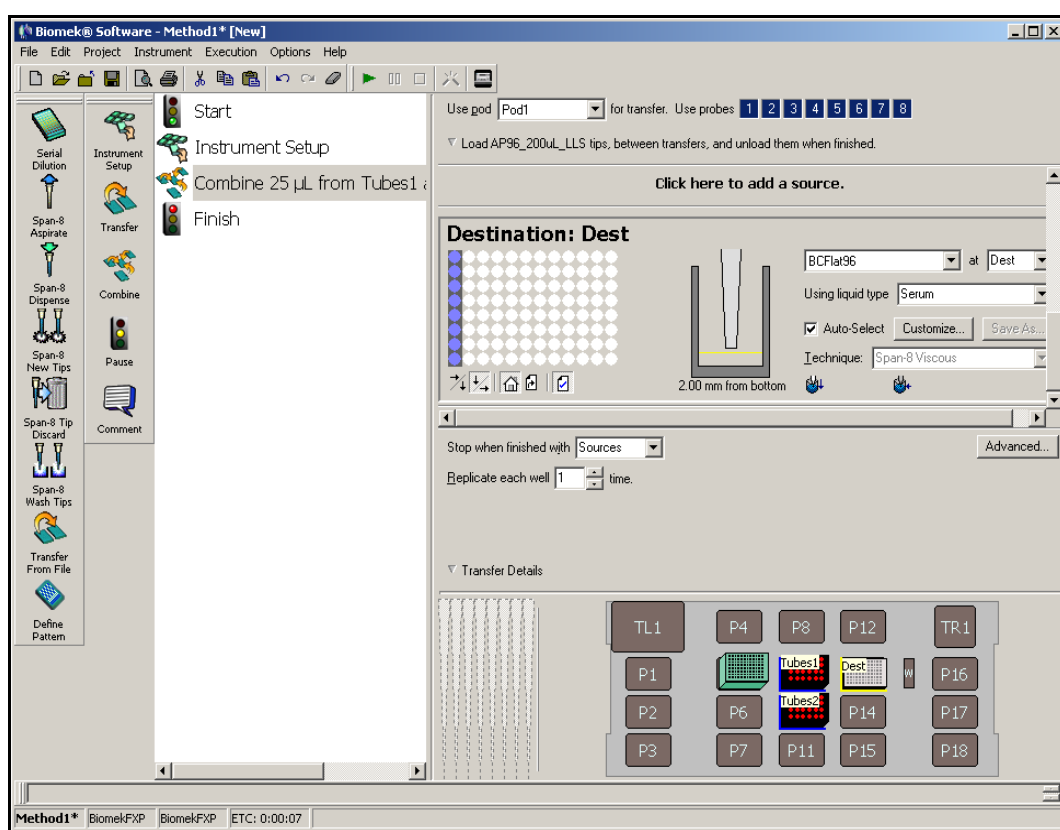

Figure 6-4. Stop when finished with Sources chosen
6. In **Stop when finished with**, make sure **Sources** is chosen (Figure 6-4).